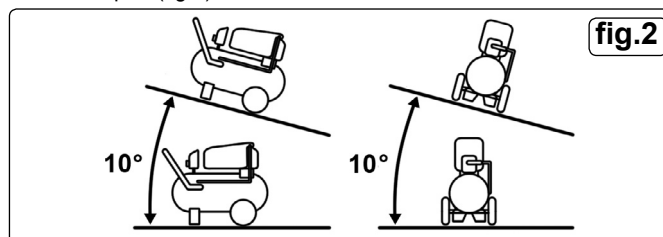

fig.2
- 3.3. The compressor should be installed on a flat surface, or one that does not exceed 10° either transversely or longitudinally, (see fig.2) and should be in a position that allows good air circulation around the unit.